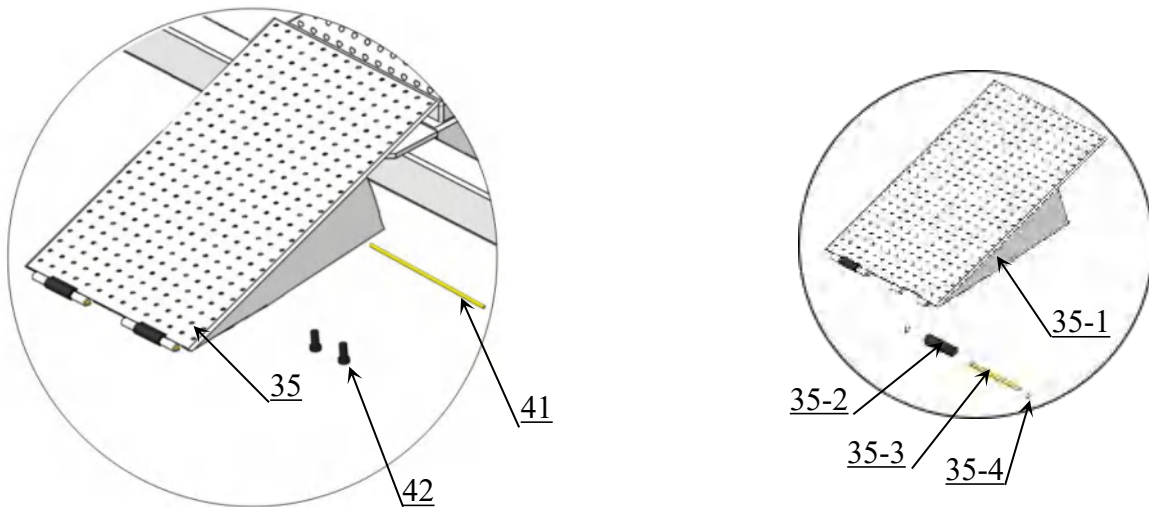
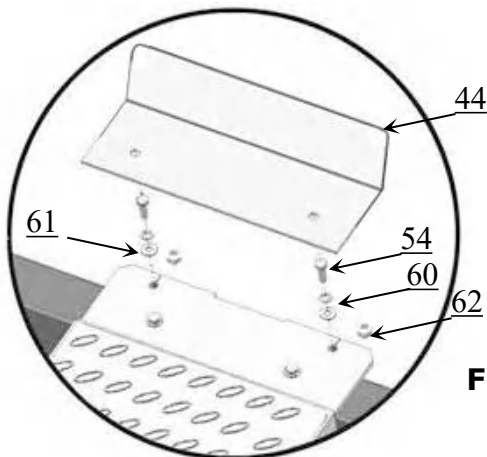

Fig.43
Fig. 44
P. Install Drive-in ramp, Tire stop plate. (See Fig. 43, Fig. 44)